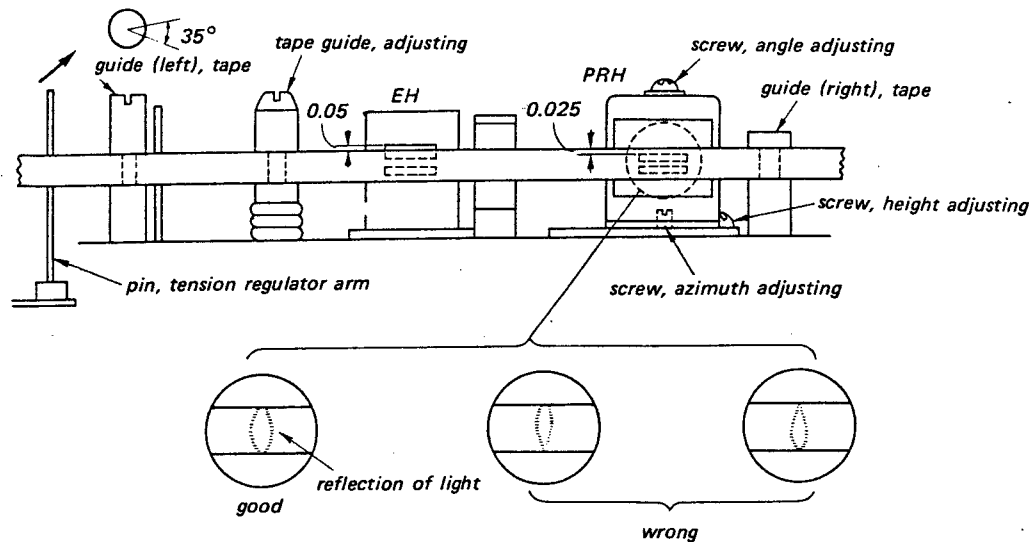

Fig. 9-3 Tape pass adjustment
- (1) Thread a blank tape.
- (2) Set the machine in FWD mode at the 19 cm/s (7½ips) tape speed.
- (3) Make the tape loose a little by pushing the tension regulator arm pin in the direction shown with the arrow in Fig. 9-3 and then adjust the zenith and azimuth adjusting screws to obtain the reflection of light as shown in Fig. 9-3.
- (4) Turn the azimuth adjusting screw to be parallel the upper edge of the head core to that of the tape.
- (5) Turn the height adjusting screw to align the upper edge of the head core and that of the tape and memorize the number of turns of the screw.
- (6) Turn the zenith adjusting screw by the same number of the turns in the same direction of the height adjusting screw.
- (7) Repeat the above procedures (5) and (6) to align the upper edge of the head core and that of the tape.
- (8) Turn the height and zenith adjusting screws counterclockwise by approximately 20° from the position obtained in the preceding procedure (7) so that the upper edge of the head core is 0.025 mm lower than that of the tape.
- (9) Be sure to obtain the reflection of light as shown in Fig. 9-3 on the tape at the head by pushing the tension regulator arm pin in the direction shown with the arrow in Fig. 9-3. If not, repeat the above procedures.